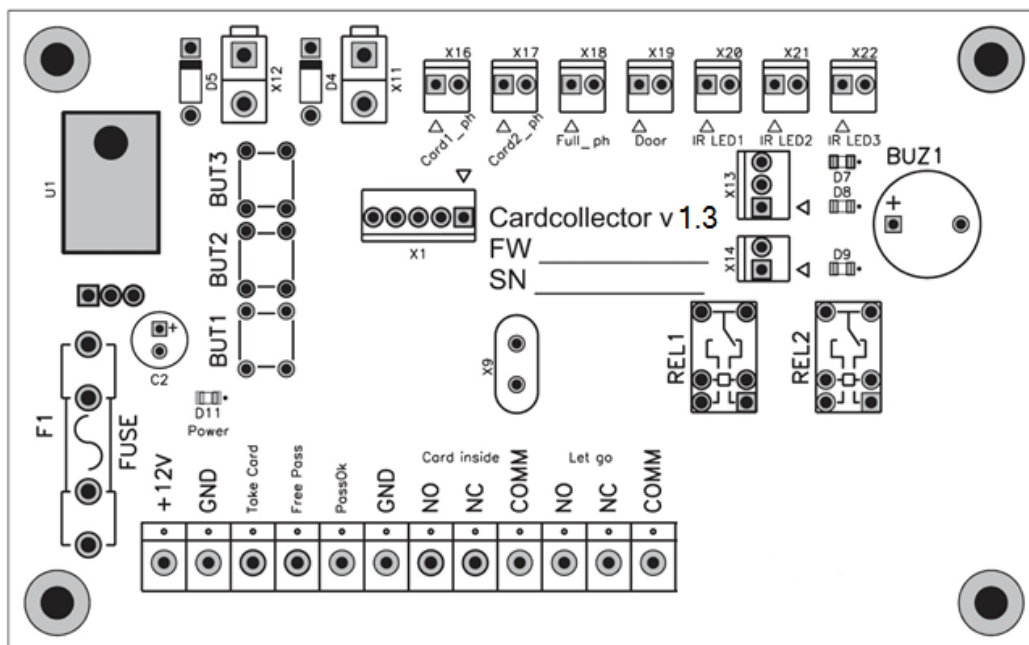

Fig. 5 General view of motherboard
- Press and hold BUT1 button on the board of the card collector (Fig. 5). When the button is pressed shutter is open forcedly and a continuous audio signal is performed;